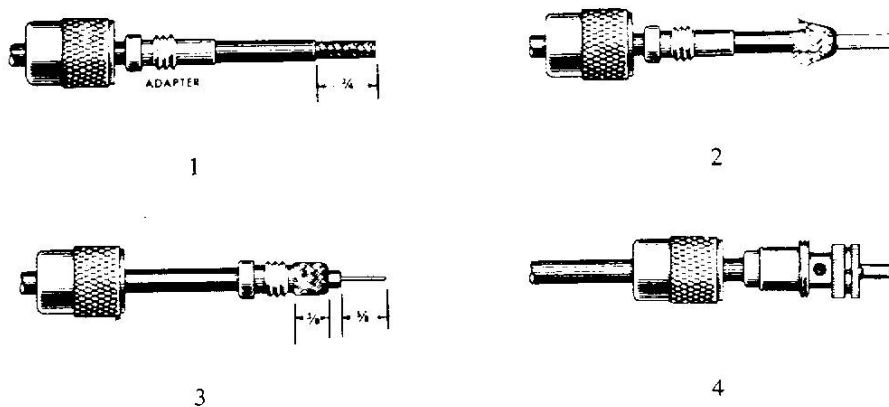

Figure 2-2. Antenna Coaxial-Connector Assembly
6. Connect antenna cable to the rear-panel antenna connector. See Figure 2-2.
1. Trim end of cable flush; then, remove outer jacket from cable to dimension shown in Figure 2-2. Slide connector ring and adapter sleeve on cable.